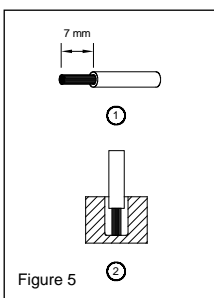

Figure 5
You can use flexible (stranded wire) or solid cables with cross section 1.3-3.3 mm² (AWG 16-12) and torque of 4.67 Kgf-cm (4.05 lb in). To secure reliable and shock proof connections, the stripping length should be 7 mm (see Fig. 5 (1)). Please ensure that wires are fully inserted into the connecting terminals as shown in Fig. 5 (2).